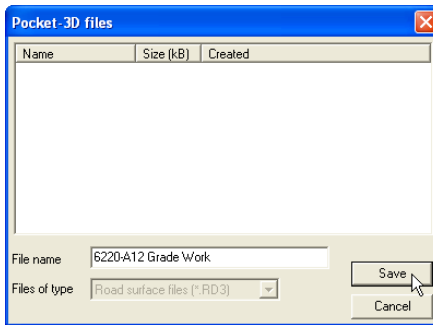

Figure 6-47. Save Alignment to Pocket-3D Controller
3. On the *Pocket-3D files* dialog box, do one of the following and click **Save** (Figure 6-47):